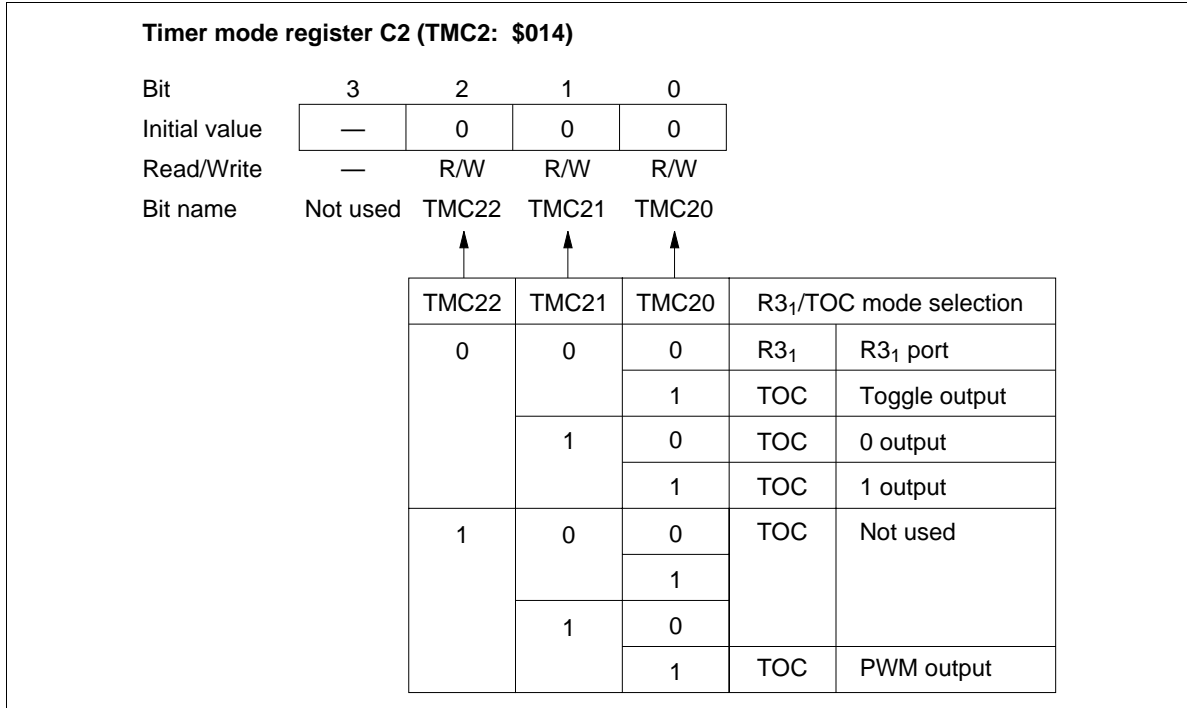

Figure 54 Timer Mode Register C2 (TMC2)
- Timer mode register C2 (TMC2: \$014): Three-bit read/write register that selects the timer C output mode (figure 54). It is reset to \$0 by MCU reset.